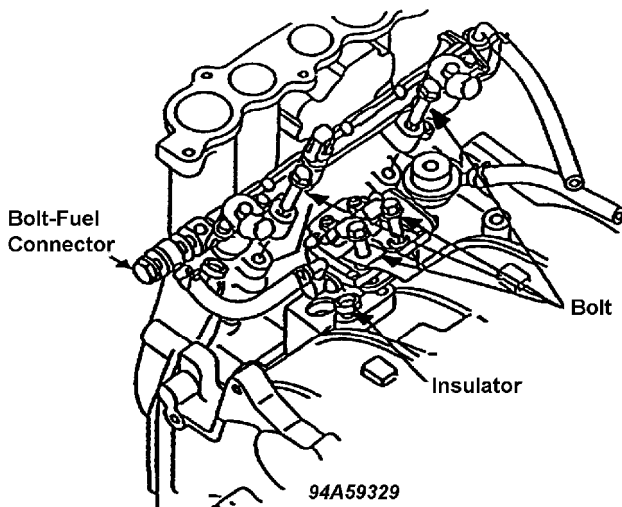

Fig. 16: Removal of Primary & Secondary Fuel Distributor & Insulator
24. Removal of primary fuel distributor, secondary fuel distributor and insulator. See Fig. 16.